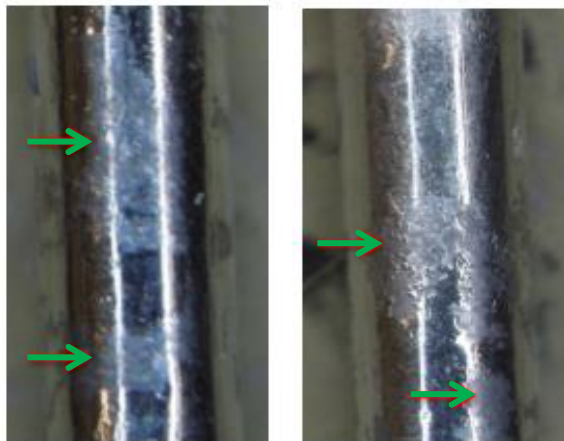

Figure 8: Examples of discolored solder pins
- The solder pins of the *flow 0* modules are plated with a nickel underlayer and a continuous tin finish to promote solderability. The tin finish can be discoloured due to production process or storage conditions. This is merely a cosmetic imperfection and does not influence the solderability of pins. Different solder pins on the same module may exhibit different levels of discoloration as shown in the examples in *Figure 8*: